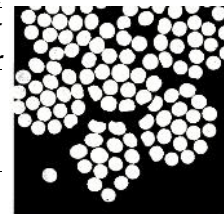

FIGURE 7-19. Internal end view of cable wear.
*This condition (shown in figure 7-19) is not easily detected **unless the strands of the cable are separated**. This type of wear is a result of the relative motion between inner wire surfaces. Under certain conditions, the rate of this type of wear **can be greater than that occurring on the surface.**"*